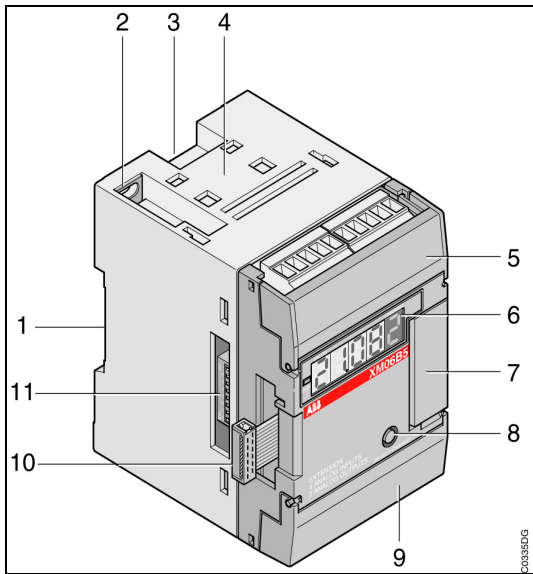
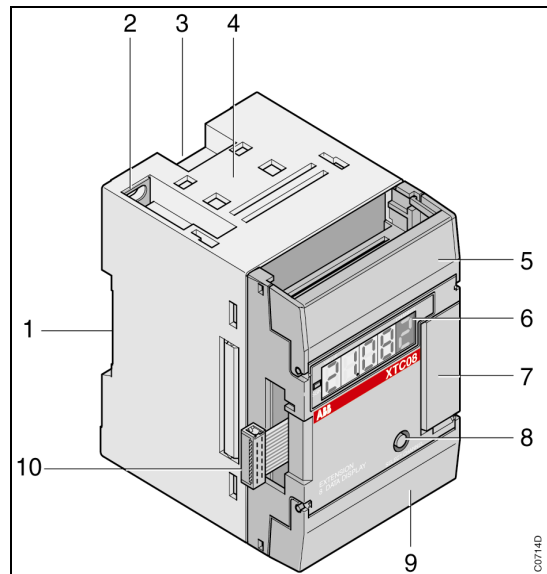

Figure 3-12 : XM 06 B5 analog extensions
Figure 3-13 : XTC 08 analog display
6.1. The front (see Figure 3-12, Figure 3-13)